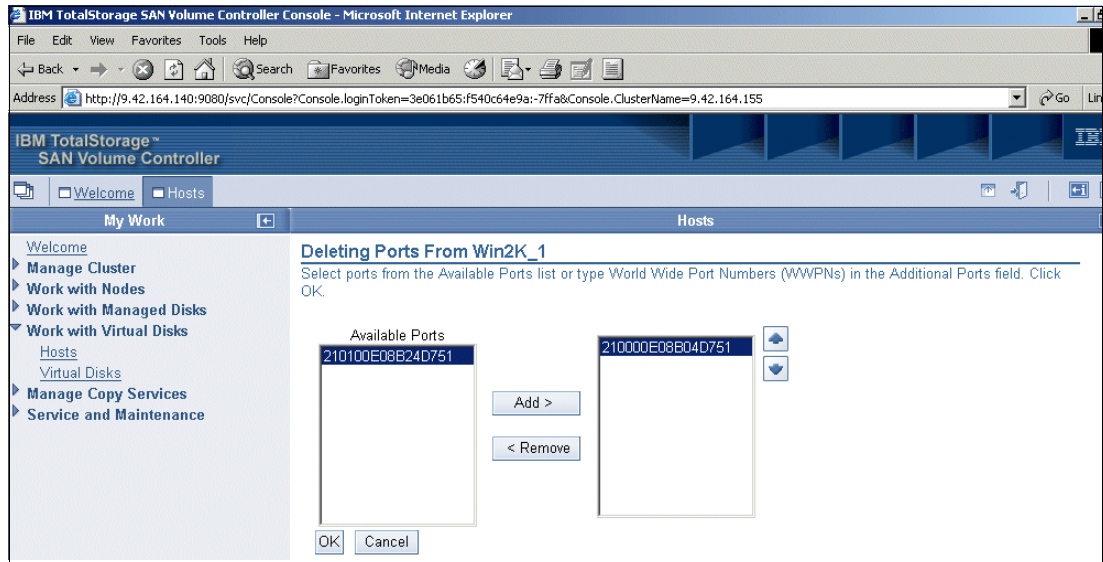

Figure 9-57 Deleting a port from a host
2. On the Deleting Ports From *hostname* panel (where *hostname* is the host you selected in the previous step), select the ports you want to delete from the Available Ports list and click **Add**. When you select all the ports you want to delete from your host to the column to the right, click **OK**. See Figure 9-57.